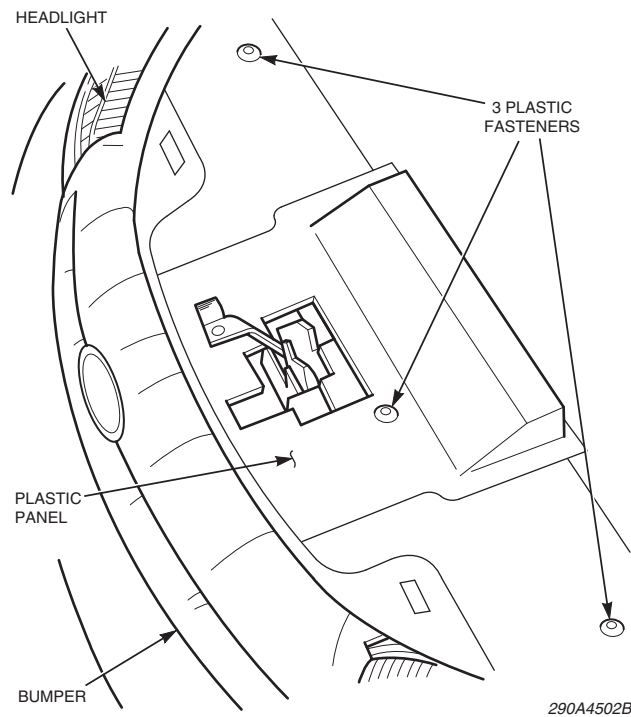

Figure 1: Location of the plastic panel
1. Raise the vehicle hood. Locate the plastic panel between the radiator crossbar and the grill fascia (*Figure 1*).
2. Reinstall the plastic panel, securing it with the plastic quarter-turn fasteners (*Figure 1* on page 3).